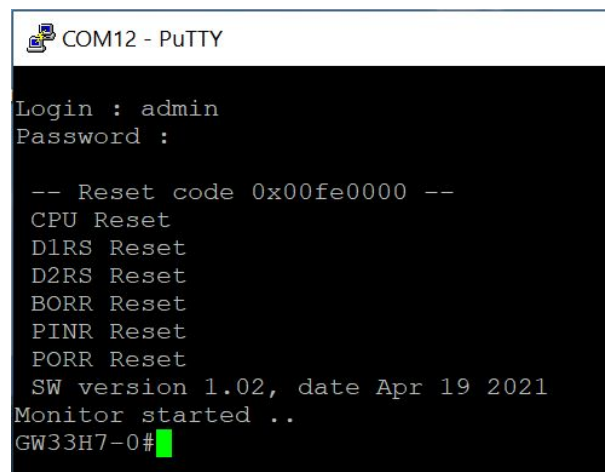

Figure 4: Open terminal window for module configuration via serial line
Click on „Open” button in „PuTTY” program and open the terminal window. After pressing of ”ENTER” key there will appear a request for login and (after entering login) password. Factory preset login/pasword couple is „*admin/admin*”, it is recommended to change it after installation. After login procedure there will appear a sequence with an information about last reset ended by system command line marked by ”GW33H7-0#” prompt, which announces that the module is ready to be configured (see figure 4).
- the command must be entered only when a prompt for command appears in front of the cursor mark (colored or flashing little square); the prompt is either „GW33H7-0#” or „mon” format (see figure 4);